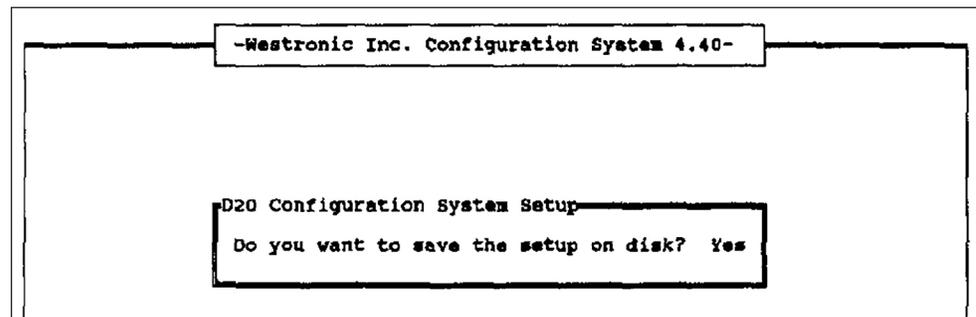

Figure 4. This screen allows the configuration to be saved to disk.
- (b) Press the <ENTER> key to step through the remaining parameters. The *D20 Configuration System Setup* screen will open and ask whether the configuration should be saved to the disk. See Figure 4 on page 10.